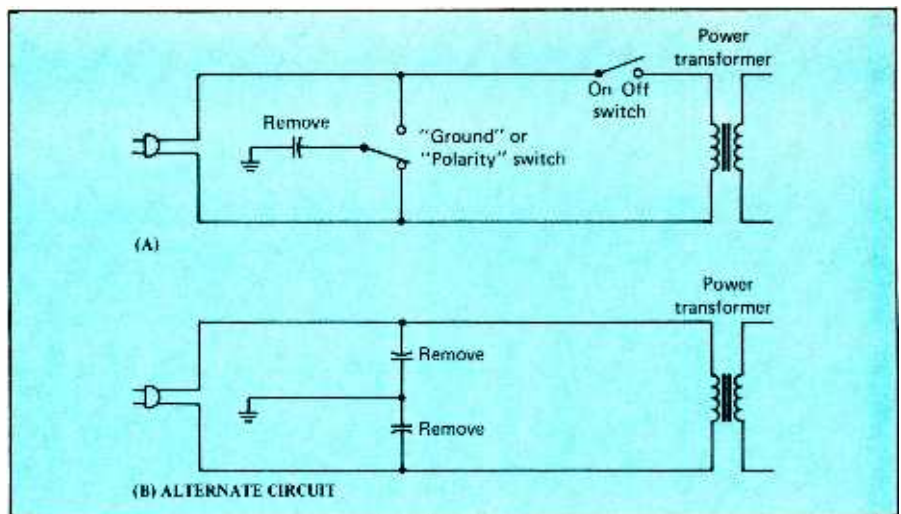

Figure 7. Removal of capacitors from across the power-line input of the guitar amp can reduce noise problems and shock hazard.
- Remove the 0.047 mfd capacitors across the power-line input in the guitar amp (*Figure 7*). They may create noise problems or cause a shock hazard.